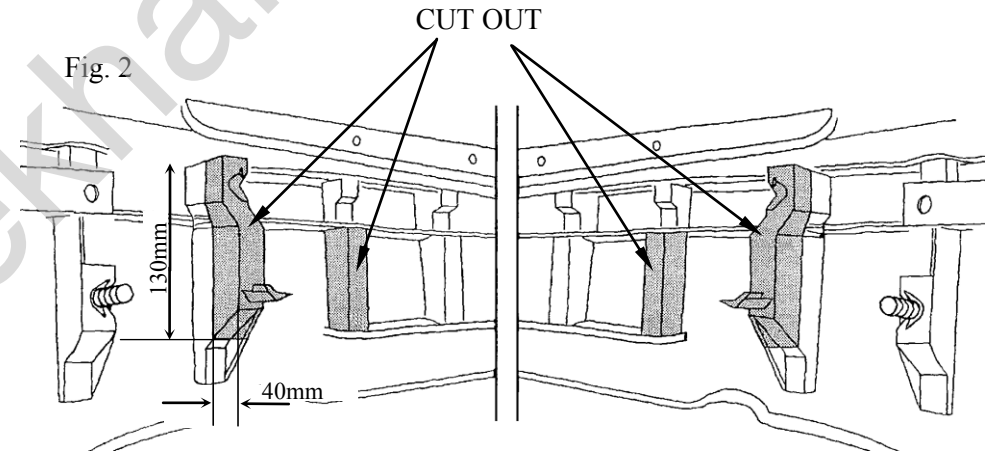

Fig. 2
8. According to figure 2 cut out elements of the bumper.
10. Fix body of the automat and place tow-ball according to supplied instruction. Note! Remember to place socket plate (pos. 3) as shown on the drawing 1.